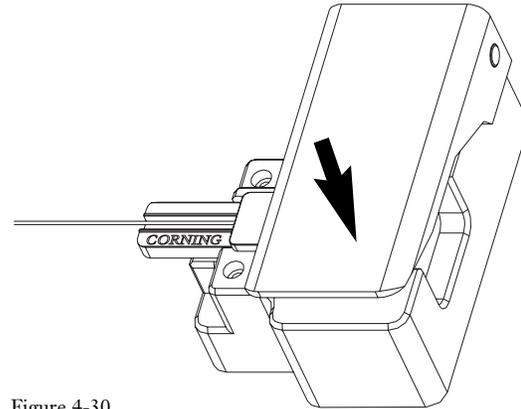

Figure 4-30
**4.7-6** While carefully holding the handler in position, with the coating butted against the elastomeric pad, slowly press the cleaver's handle as far as it will go (Figure 4-30).